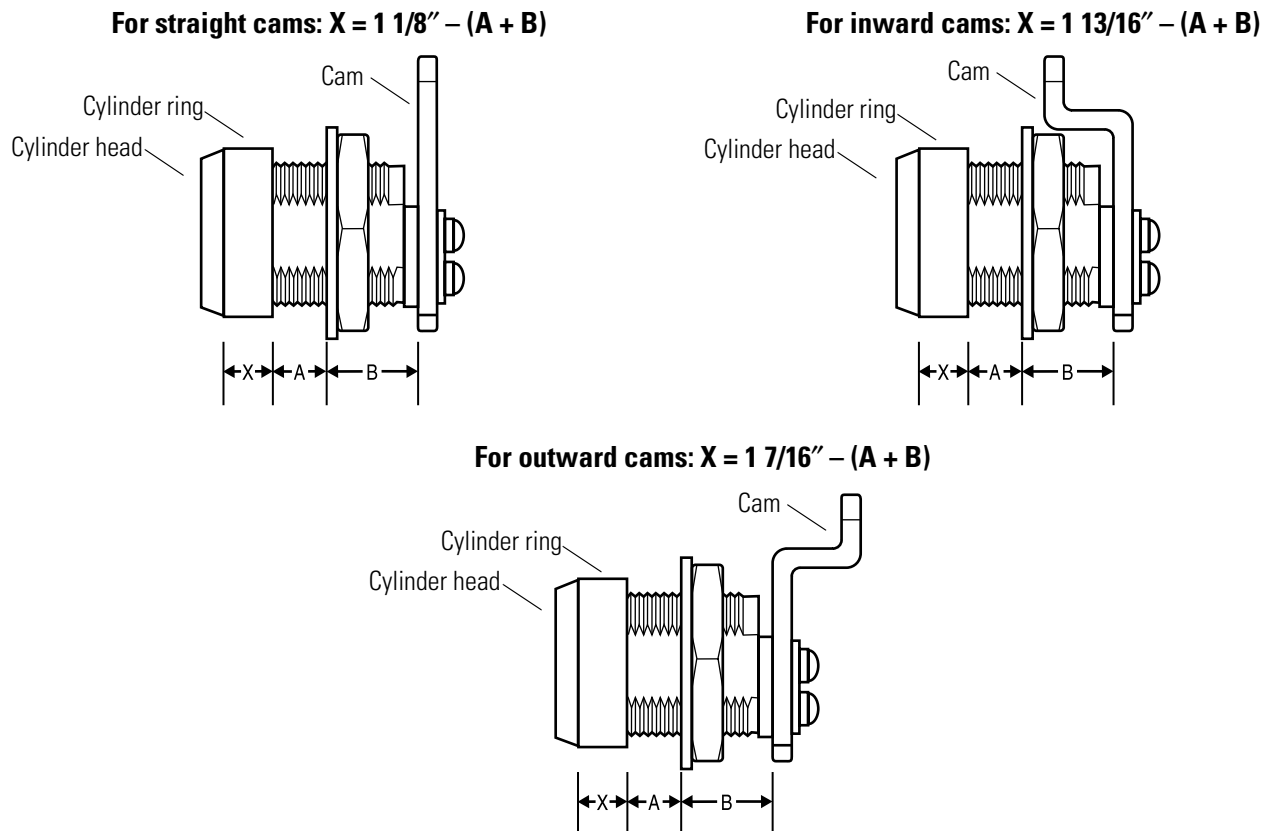

Figure 4.3 Determining the cylinder ring length
A cylinder ring is required if there is a gap between the cylinder head and the mounting surface when the cam is positioned for proper lock operation. To determine what length cylinder ring is needed, see Figure 4.3 and perform the following steps:
1. Measure in inches the thickness of the mounting surface. See length "A" in Figure 4.3.
2. Measure in inches the desired distance from the cam to the inside of the mounting surface. See length "B" in Figure 4.3.
4. *For straight cams*, subtract the total in Step 3 from $1 \frac{1}{8}"$. The difference is the length of the cylinder ring needed. See straight cam length "X" in Figure 4.3.
For inward mounted cams, subtract the total in Step 3 from $1 \frac{13}{16}"$. The difference is the length of the cylinder ring needed. See inward cam length "X" in Figure 4.3.
For outward mounted cams, subtract the total in Step 3 from 1 7/16". The difference is the length of the cylinder ring needed. See inward cam length "X" in Figure 4.3.